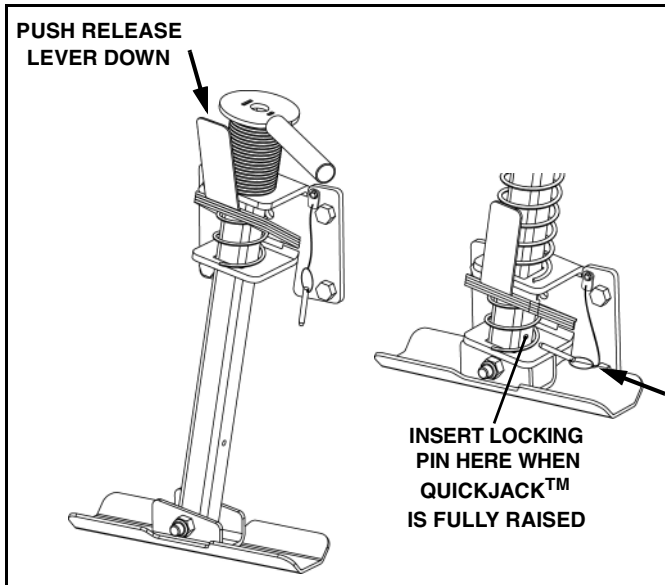

Figure 1-30
30. Raise QuickJack™ foot by pushing down on its release lever. Insert the locking pin in the QuickJack™ tube to prevent the jack from dropping during transport or plowing operations. (See Figure 1-30).